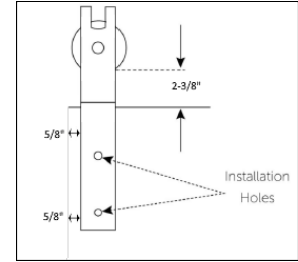

Figure 4
5. Attach one end of the track to the wall with one standard stop, one lag screw, one spacer and one washer, using a socket wrench with 9/16" socket (Figure 4). Do not tighten.